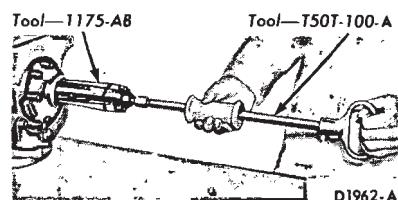

FIG. 42—Removing Front Pump Seal
8. Install the oil seal remover shown in Fig. 42. Then pull the front seal from the pump body.